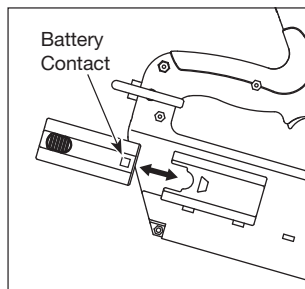

Figure 9
1. Load the battery, contacts first, into the tool (see Figure 9).